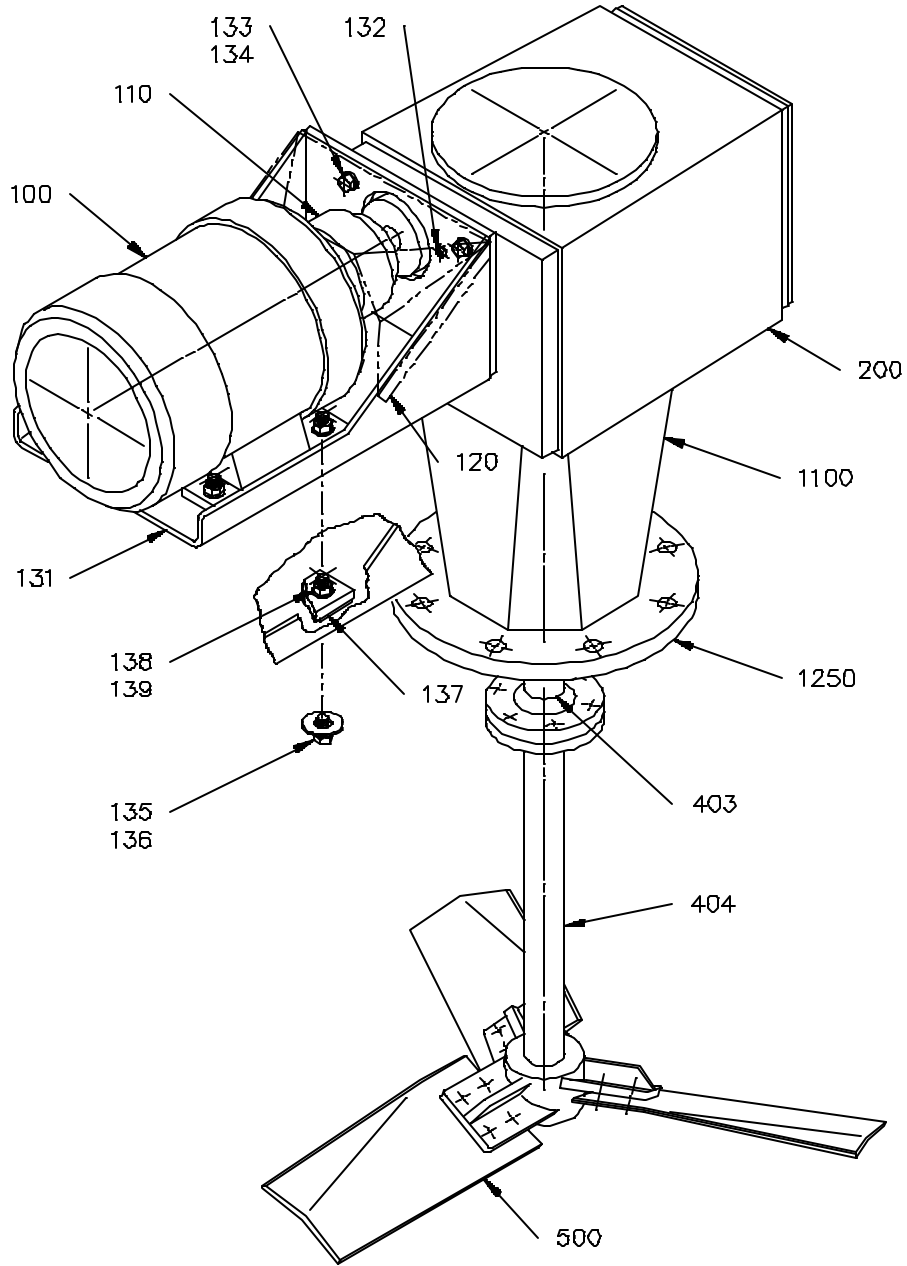

Figure 3: Model HTN, HTNS Agitator Assembly
1. The HT agitator is shipped in two or more crates: one for extension shaft **[404]** and impeller **[500]** and one for the agitator drive (*Figure 3, page 12*). Multiple impellers, large motors, mechanical seal assemblies, drive shaft and optional accessories may be crated separately.